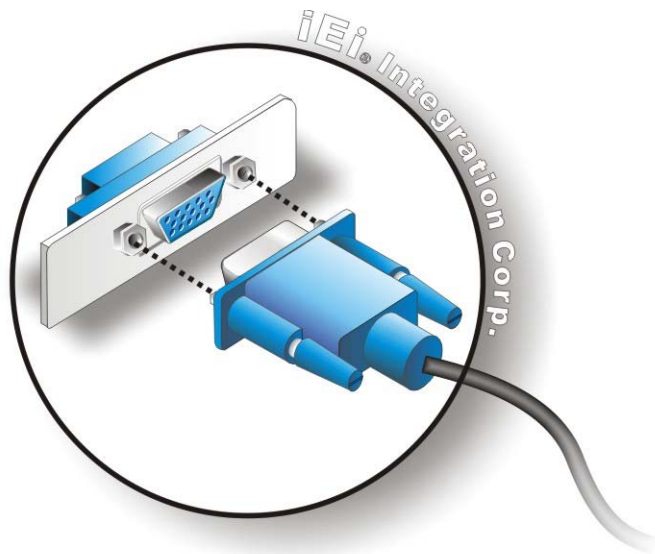

Figure 4-18: VGA Connector
- Step 3:** **Insert the VGA connector** Once the connectors are properly aligned with the insert the male connector from the VGA screen into the female connector on the SPCIE-C2160. See **Figure 4-18**.